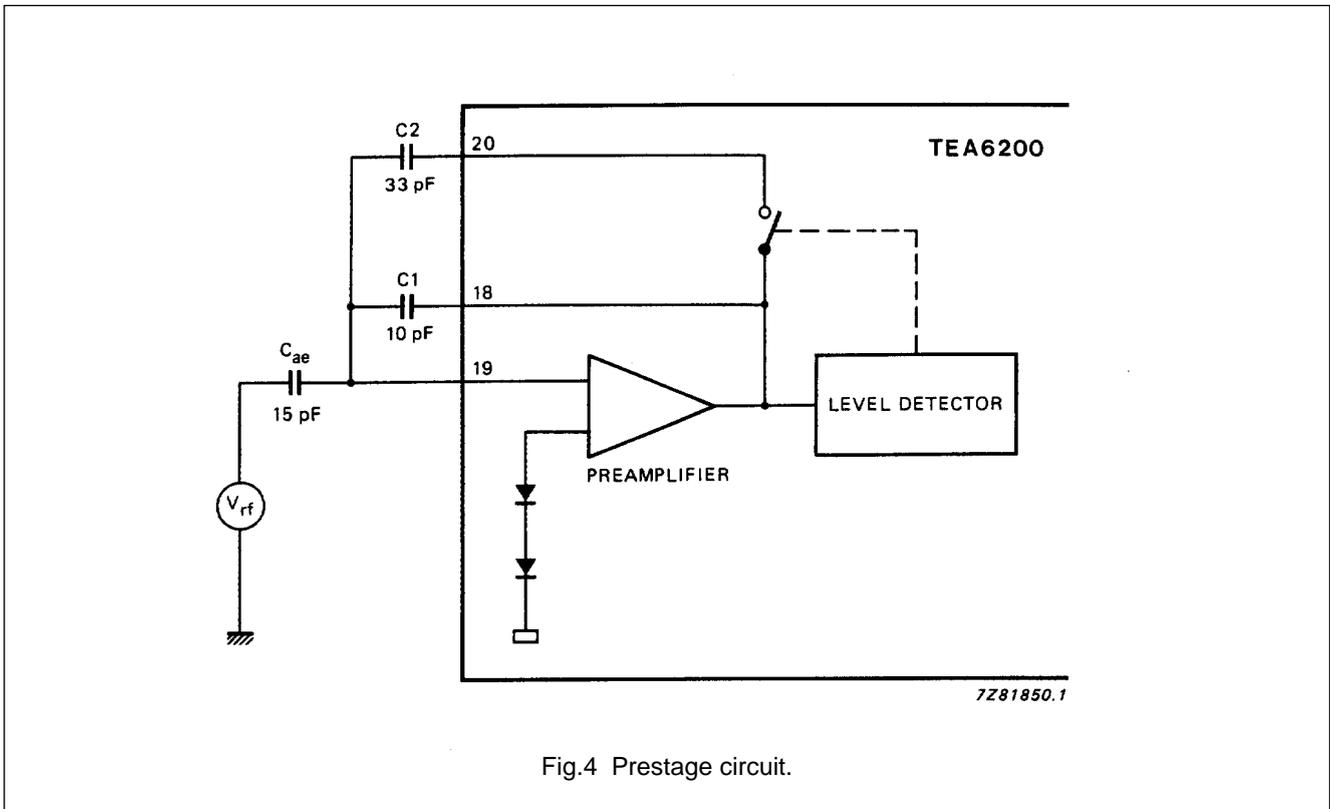

Fig.4 Prestage circuit.
- The prestage is connected to the aerial by a 6 MHz low-pass filter that decouples unwanted aerial cable resonance frequencies. The large dynamic range of the prestage is achieved by use of a transimpedance amplifier with a feedback loop consisting of an equivalent aerial capacitance and a feedback capacitor. When large RF signals are received the feedback capacitance in the loop is increased and the gain subsequently reduced, (see Fig.4).